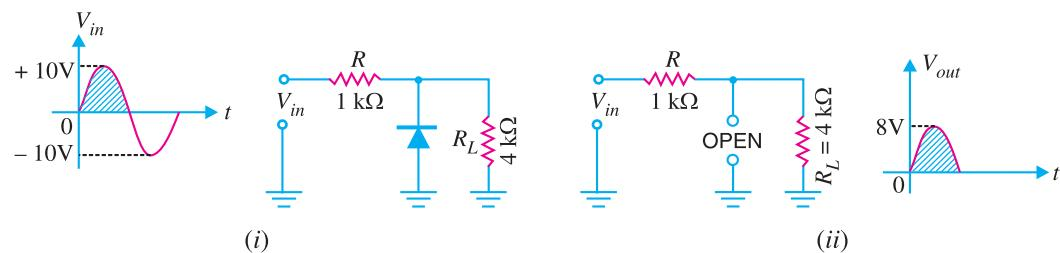

Fig. 18.29
**Example 18.8.** The negative shunt clipper shown in Fig. 18.29 (i) has a peak input voltage of +10 V. What is the peak output voltage from this circuit?
**Solution.** When the diode is connected in parallel with the load, it is called a shunt clipper. During the positive half-cycle of input ac signal, the diode is reverse biased and it will behave as an open. This is shown in Fig. 18.29 (ii). With diode as an open,